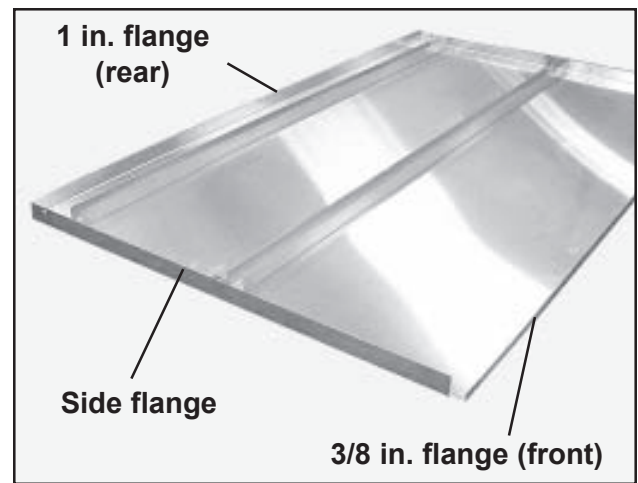

Figure 47. Typical Top Panel (underside shown)
3. Examine the top panel in Figure 47 and identify the front and rear of your top panel.